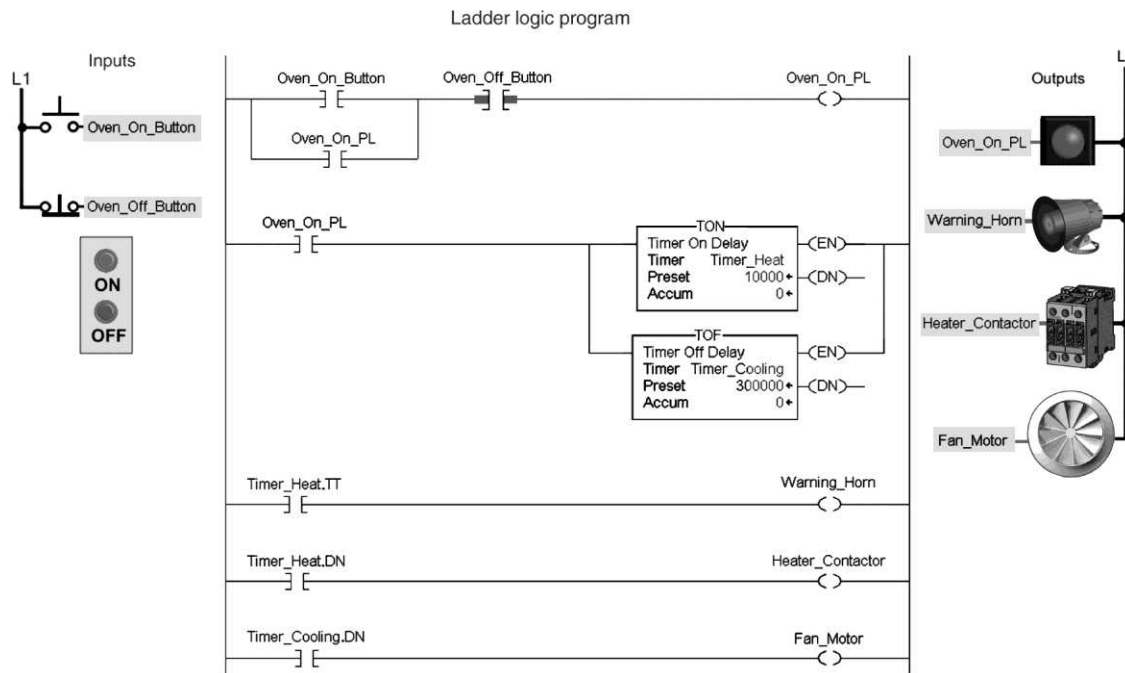

Figure 15-30 Timer control of a heating process program for assignment 6.
6) The timer control of a heating process program of Figure 15-30 is described in the text. Prepare an I/O connection diagram and ladder logic program that will simulate its operation. Utilize field devices found on your ControlLogix installation. Enter the program into the controller, and monitor its operation.